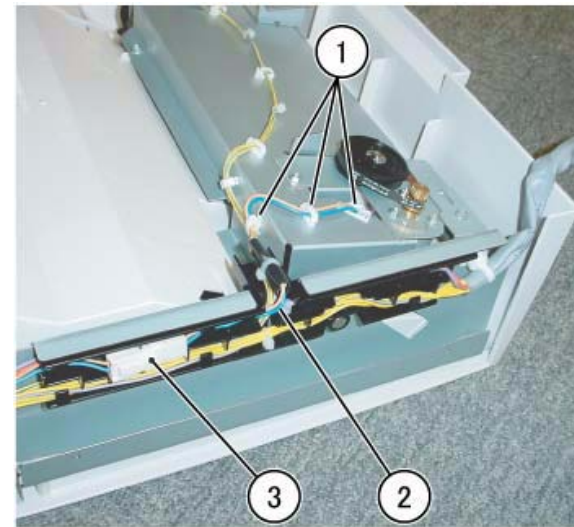

Figure 1 Disconnecting the Connector (j0fa42261)
5. Disconnect the Connector. (Figure 1)